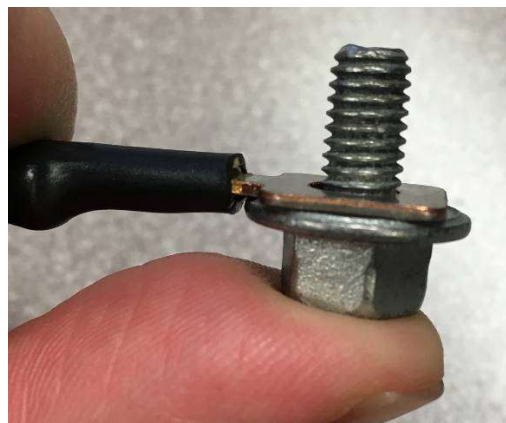

Fig3
- 3- Obtain new capacitor bolt. Place bolt through ground wire eyelet. See Fig3.